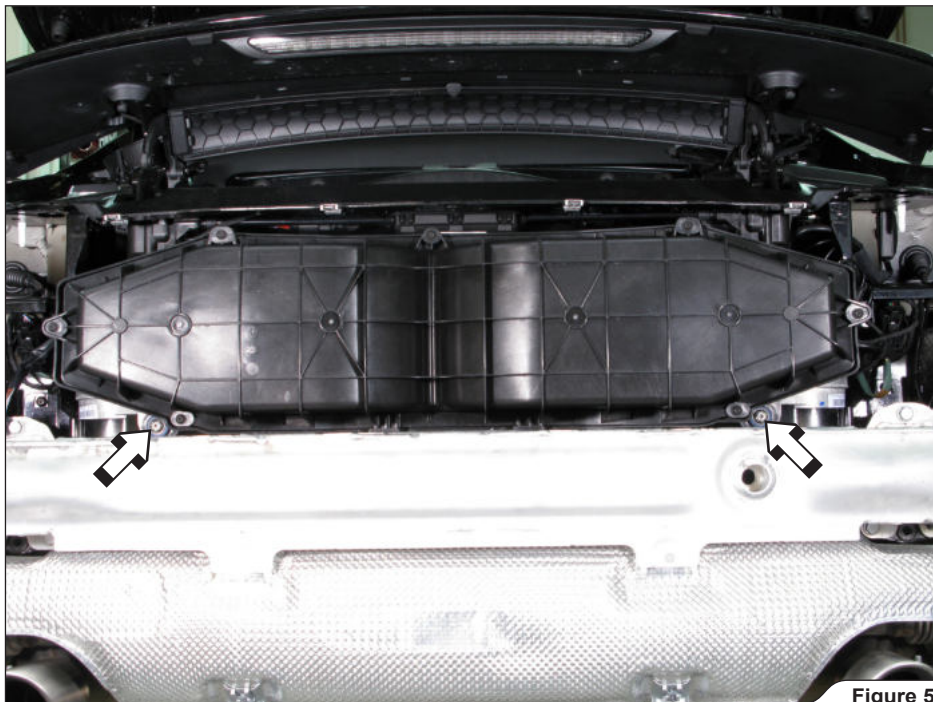

Figure 5
4. Unscrew the marked bolts, undo the vacuum tubes and electromagnetic valves at the back of the air box and carefully remove the air box off the vehicle (**Figure 5**).